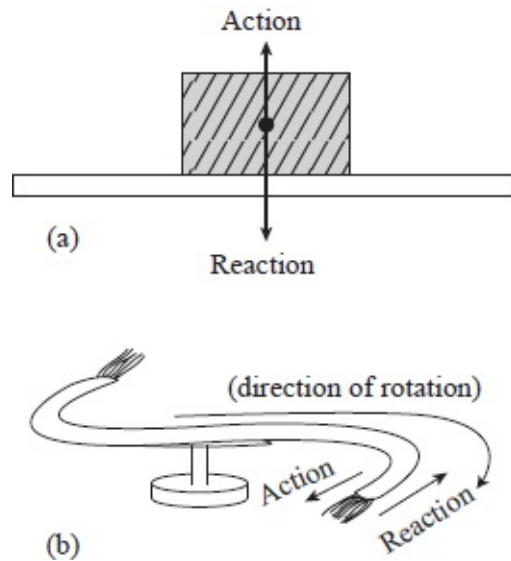

Fig. 3.22: Action and reaction
1. When a block of wood is placed on a table, its weight (action) acts on the table. It is pressed on the surface downwards. The reaction (force in the opposite direction) of the table acts on the block, see figure 3.22 (a).
2. When you hold a hose-pipe which is projecting a powerful jet of water, you notice that there is a steady force of reaction from the jet. This is the force which is harnessed in some garden sprinklers, see figure 3.22 (b).